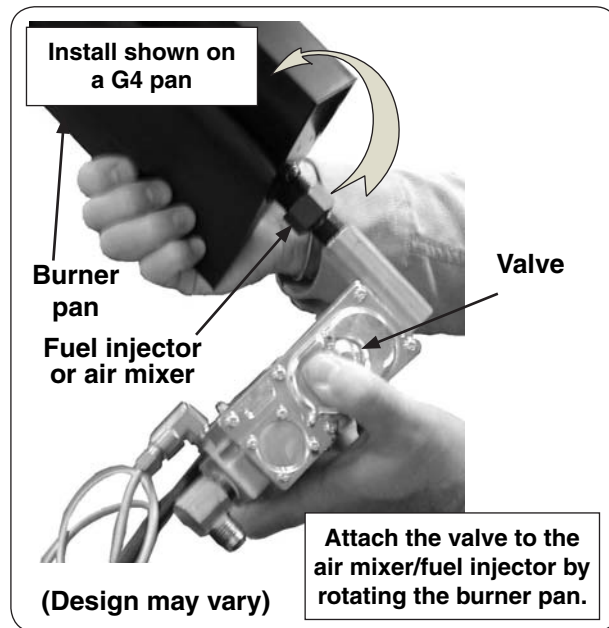

Fig. 5-1 Install valve
2. Install the valve to the fuel injector or air mixer by screwing the pan into the valve (Fig. 5-1). Take care not to damage the attached pilot assembly when rotating the burner pan. Be sure all connections are tight, however do not overtighten to prevent damage to the valve.